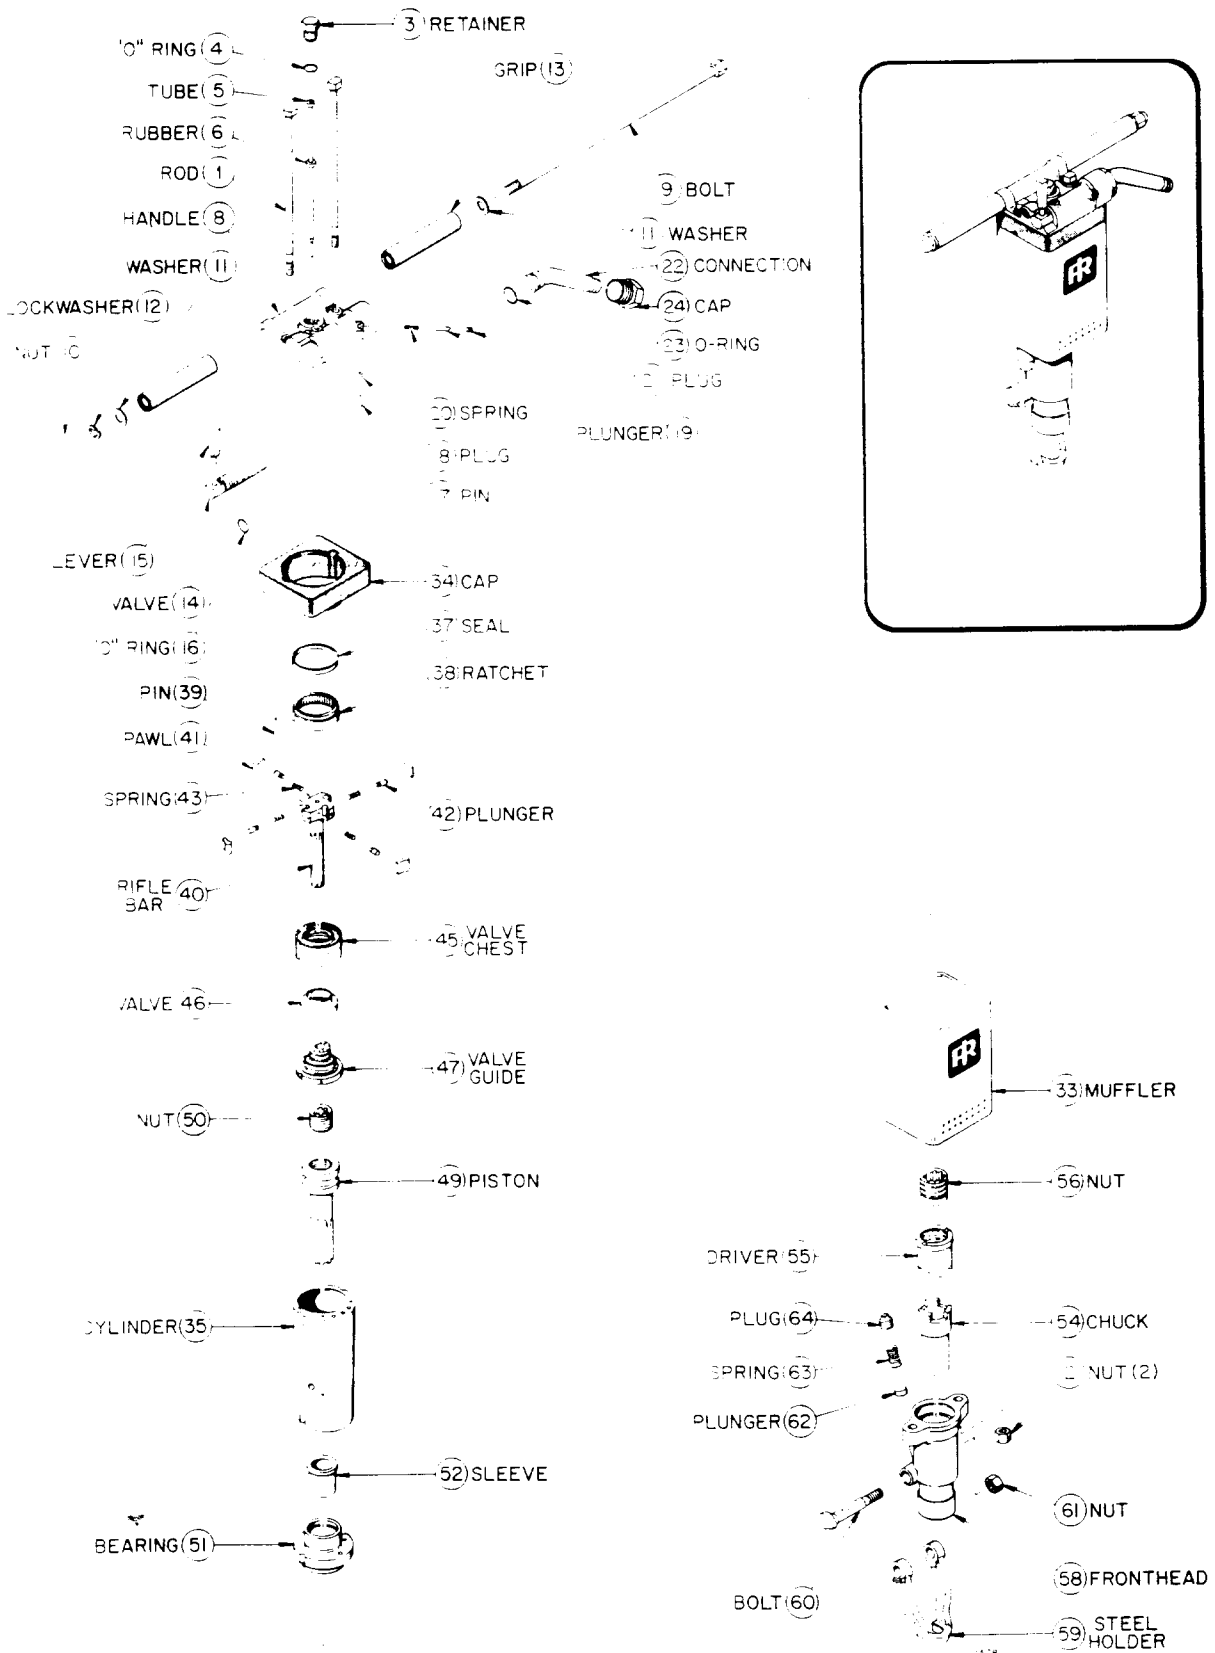
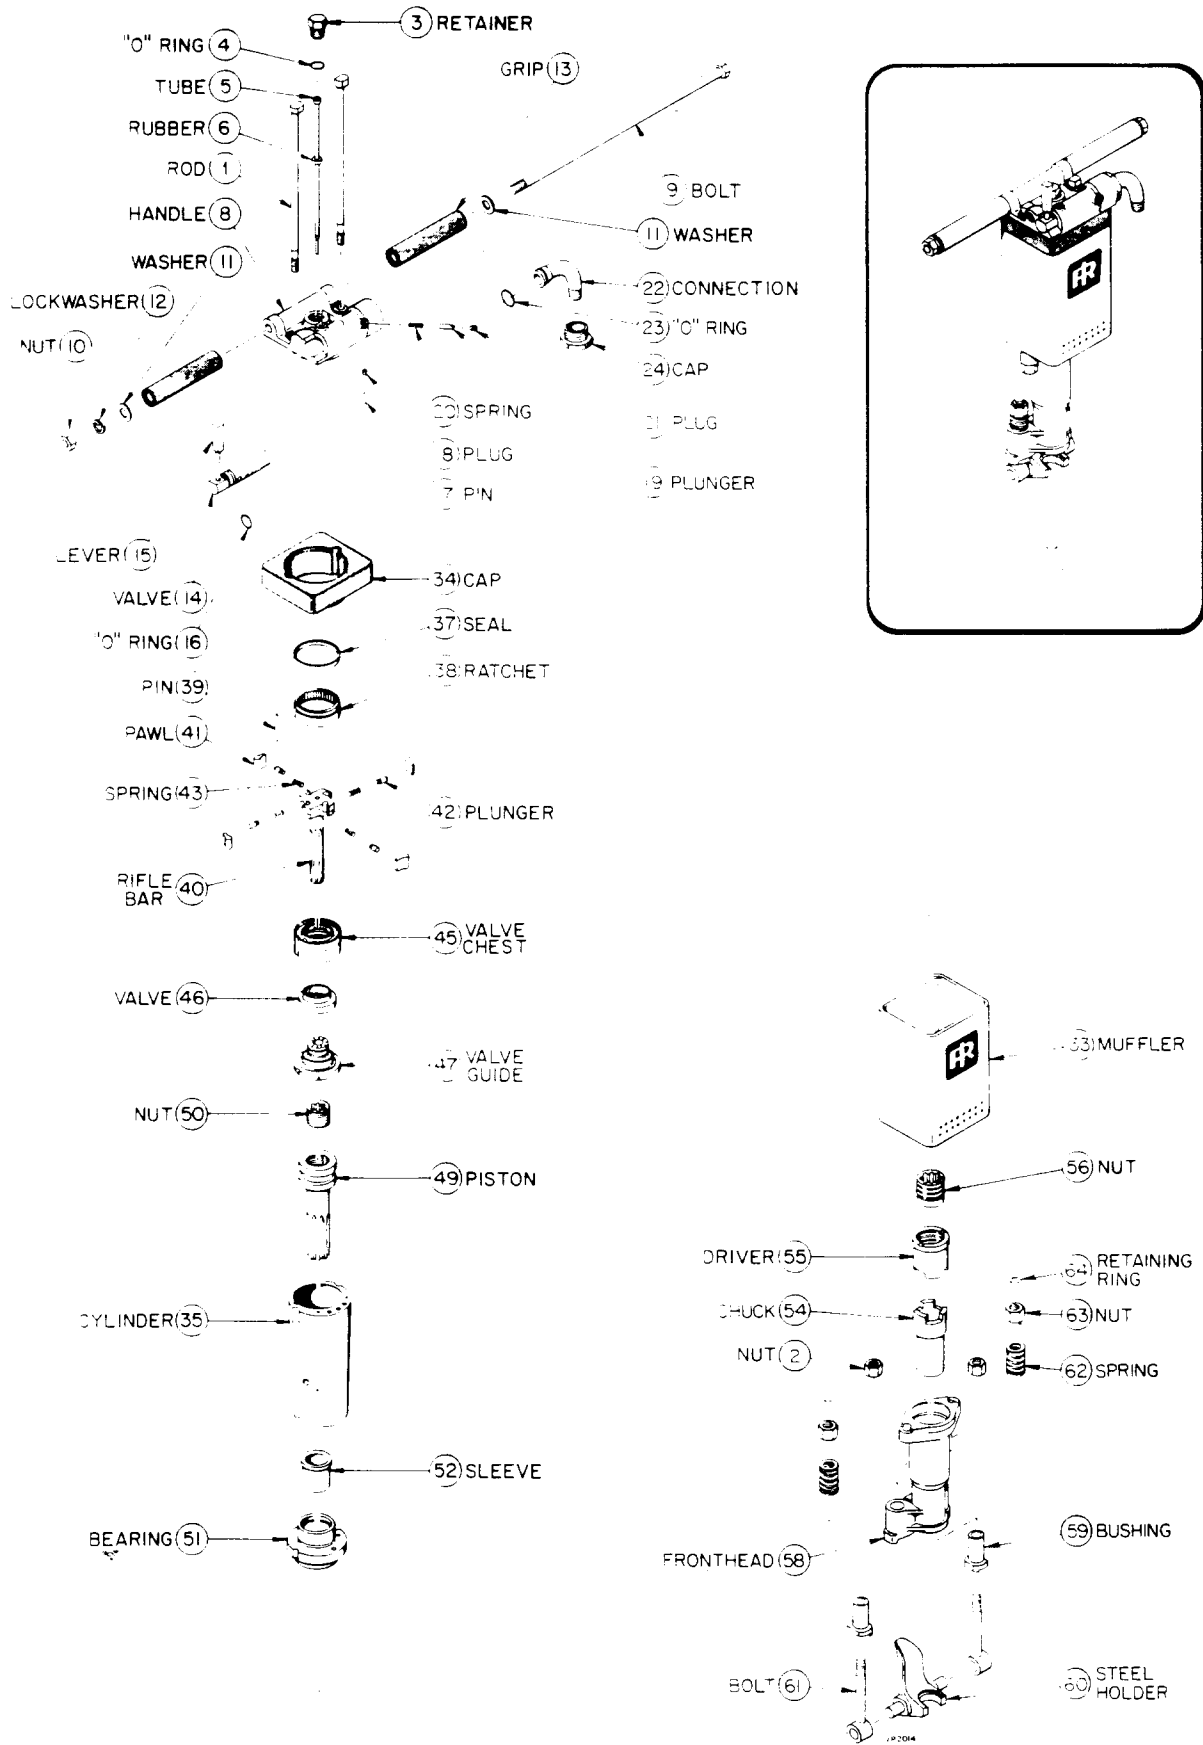

Figure 3-1. JH40 Jackhammer (Yoke Type Steel Holder)
Figure 3-2. JH40 Jackhammer (Beavertail Type Steel Holder)
- a. Standard—JH40 with Yoke Type Steel Holder Construction (Refer to Figure 3-1).
- b. Optional—JH40 with Beavertail Type Steel Holder Construction (Refer to Figure 3-2).
The handle bolt (9) is designed with an identical nut on each end, however the nut (10) that seats the lockwasher (12) is removable, while the nut on the opposite end (no lockwasher) is permanently assembled to the handle bolt. Do not attempt to remove the permanently assembled nut (refer to figure 3-1 or figure 3-2).
13. Slide the handle grip washer (11) and handle grip (13) from the handle bolt (9).
14. Remove the handle bolt [with remaining handle grip washer (11) and handle grip (13)] from the handle (8).
15. Pull the fronthead (58) with chuck and steel holder parts off the piston stem bearing (51).
17. Drive the chuck (54) and chuck driver (55) with chuck nut (56) out of the fronthead assembly.
18. Clamp the chuck driver (55) in a vise.
19. The chuck nut (56) can be removed from the chuck driver (55) by using a tool made from an old piston. Cut-off the old piston stem and weld a hex. nut to the stem.
20. Insert the fabricated tool in the chuck nut (56) and turn clockwise to remove.
21. Steel Holder Removal (For JH40 with Yoke Type Steel Holder—Refer to Figure 3-1):
b. Remove the plug (64), spring (63), and plunger (62).
c. Unscrew the nut (61) and remove the bolt (60) and steel holder (59).
22. Steel Holder Removal (For JH40 with Beavertail Type Steel Holder—Refer to Figure 3-2):
a. Tighten the steel holder bolt nuts (63) and remove the steel holder bolt nut retaining rings (64).
b. Unscrew and remove the steel holder bolt nuts (63), and slide the steel holder springs (62) off the steel holder bolts (61).
c. Slide the steel holder bolts (61) and steel holder (60) out of the fronthead (58).
d. If worn, drive the steel holder bolt bushings (59) out of the fronthead lugs.
23. Remove the muffler cap (34) and slide the muffler (33) from the cylinder (35).
Refer to Figure 3-1 for JH40 with Yoke Type Steel Holder, and to Figure 3-2 for JH40 with Beavertail Type Steel Holder. The following reassembly instructions cover both JH40 constructions, except where noted.